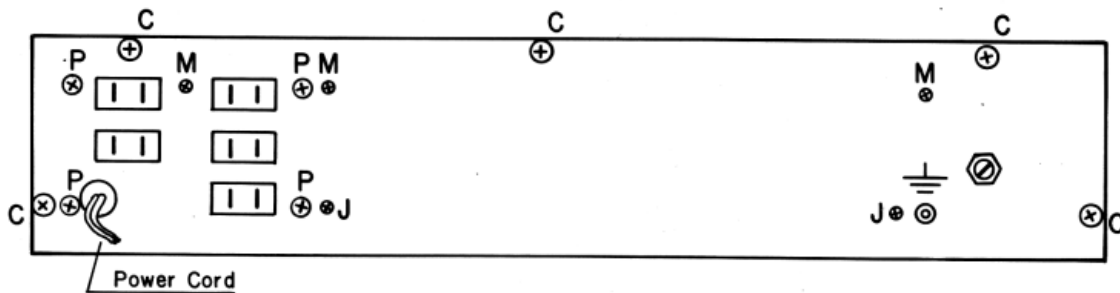
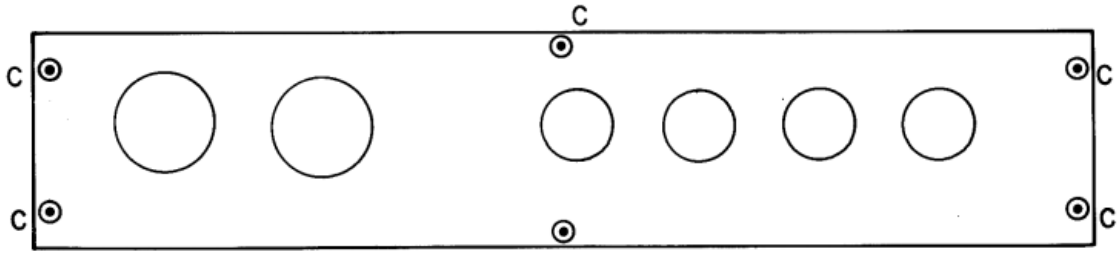

Fig. 6-1. Back Panel.
Fig. 6-2. Front Panel.
For easy access to a few parts, you may want to remove the jackboard. Remove the screws marked J in Fig. 6-1.
6.3 Top Cover. Remove the five no. 6 sheet metal screws in the back panel marked C in Fig. 6-1 with a no. 2 Phillips driver. Remove the five 4-40 flat head socket screws marked C in Fig. 6-2 with a 1/16 in. hex driver. Spring the two ends of the case slightly away from each other and lift off the cover.
- 6.5 **Rear Panel.** After removing the case, remove the no. 6 sheet metal screws marked P (power supply bracket) in Fig. 6-1 with a no. 2 Phillips driver, and the machine screws marked M (main board) and J (jack board) with a no. 1 Phillips driver. Remove the 8 mm hex nut on the Load: Capacitive switch. This will allow you to pull the rear panel loose; for complete removal, it will be necessary to unsolder the line cord, the 120 Vac outlets, and the +18 V jack.
- 6.6 **Front Panel.** Remove the knobs with a 2 mm hex driver. Remove the sixth 4-40 flat socket machine screw (unmarked, Fig. 6-2) with a 1/16 in. hex driver. Remove the control nuts and washers, and set aside the nut and washer from the Volume control. (This nut and washer are 9 mm; all others are 8 mm.) The front panel will now slide off.
6.7 Sub Front Panel. This plate mounts the headphone jack, the power switch, and the LED. It is secured between the control potentiometers and the front panel by the control hex nuts and is mounted to the front panel by the unmarked socket screw in Fig. 6-2.
7.4 Troubleshooting for Hum. Once you have determined that the power supply rails do not exceed their nominal noise levels, grounding problems should be suspected. Because of the levels involved, locating a minor hum problem may require that you take factors less commonly associated with hum into account. Supply ripple, for example, may be introduced by resistive grounding, e. g., by faulty grounding of the 1000 μ F supply capacitors, C59 and C62. Inspect possible foil ground problems. Check the grounding of the main board foil at point G1 (through the screw marked G1 in Fig. 6-1) to the bracket which fastens the rear panel; this must be a firm, low resistance contact. The steel power supply bracket should connect to foil ground only through the rear panel and rear panel bracket at G1. Observe that the grounds to phono inputs are *not* obtained through the foil passing along the rear panel; the capacitor C1 obtains RF ground only, and if shorted can cause hum susceptibility in phono inputs.